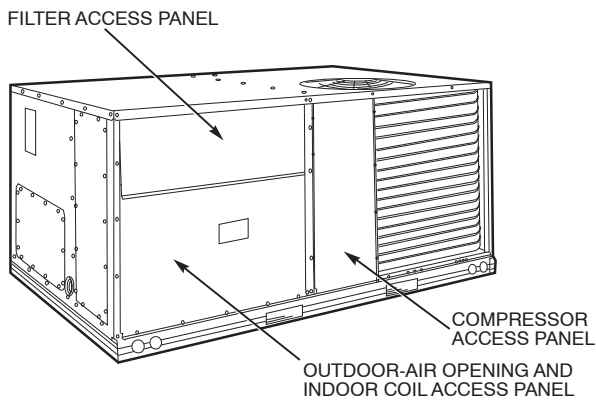

Fig. 8 - Typical Access Panel Locations
2. To gain access to the hood, remove the filter access panel. (See Fig. 8.)